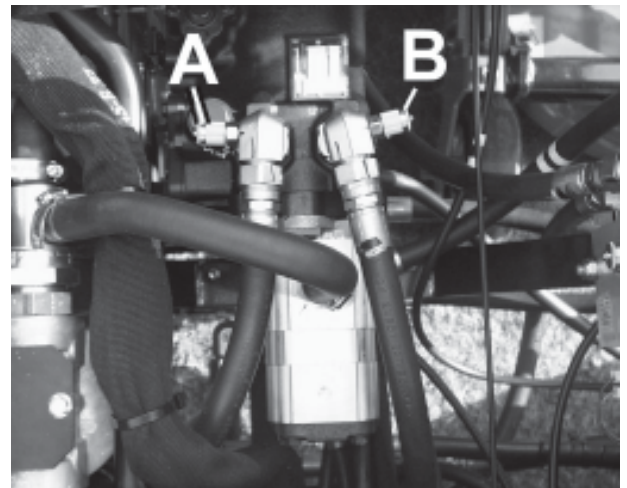

Fig.8
2. Four wheel drive pressure: 207 bar (3000 psi). (A/B(Fig.8)).